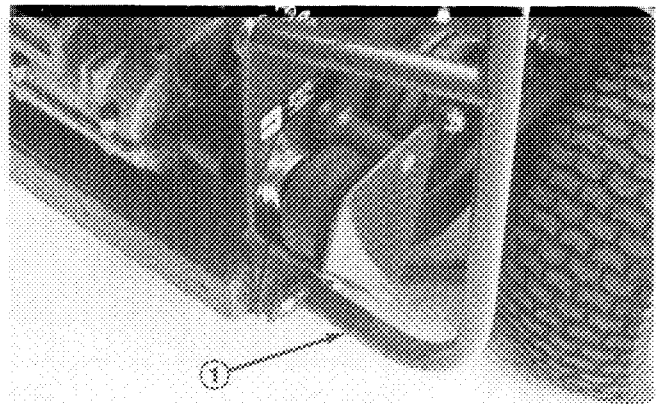

Figure 4
4. Loosely secure rear of bagger frame to bottom of R.H. support bracket and rear frame with (2) 3/8 - 16 x 1-1/4" lg. capscrews and spacers (supplied in loose parts bag) and locknuts previously removed (Fig. 4).
5. Loosely secure rear of bagger frame and handle to rear frame with large capscrew (supplied in loose parts bag) and flangenut previously removed (Fig. 4).